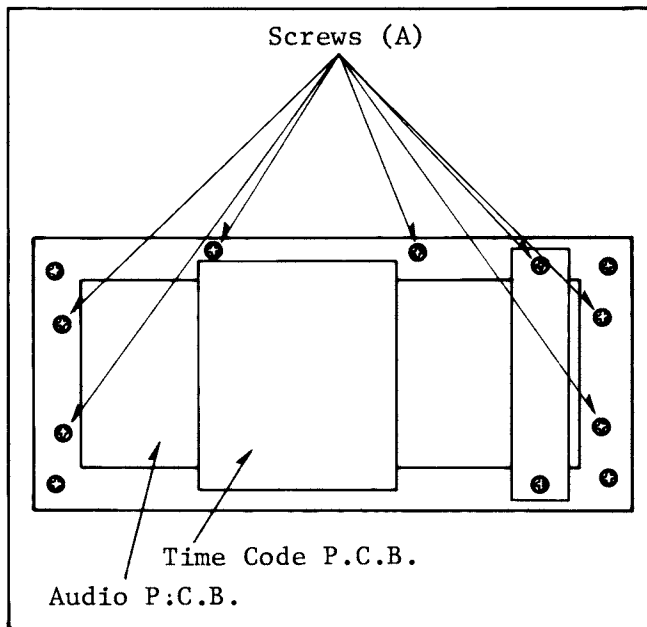

Fig. 4-1. Removal of Audio P.C.B. (P-3)
2. Remove the AUDIO P.C.B. (P-3) unit by the 7 screws (A) as shown in Fig. 4-1. Blind the supply and take-up phototransistors with two pieces of black tabs and turn the power switch ON.